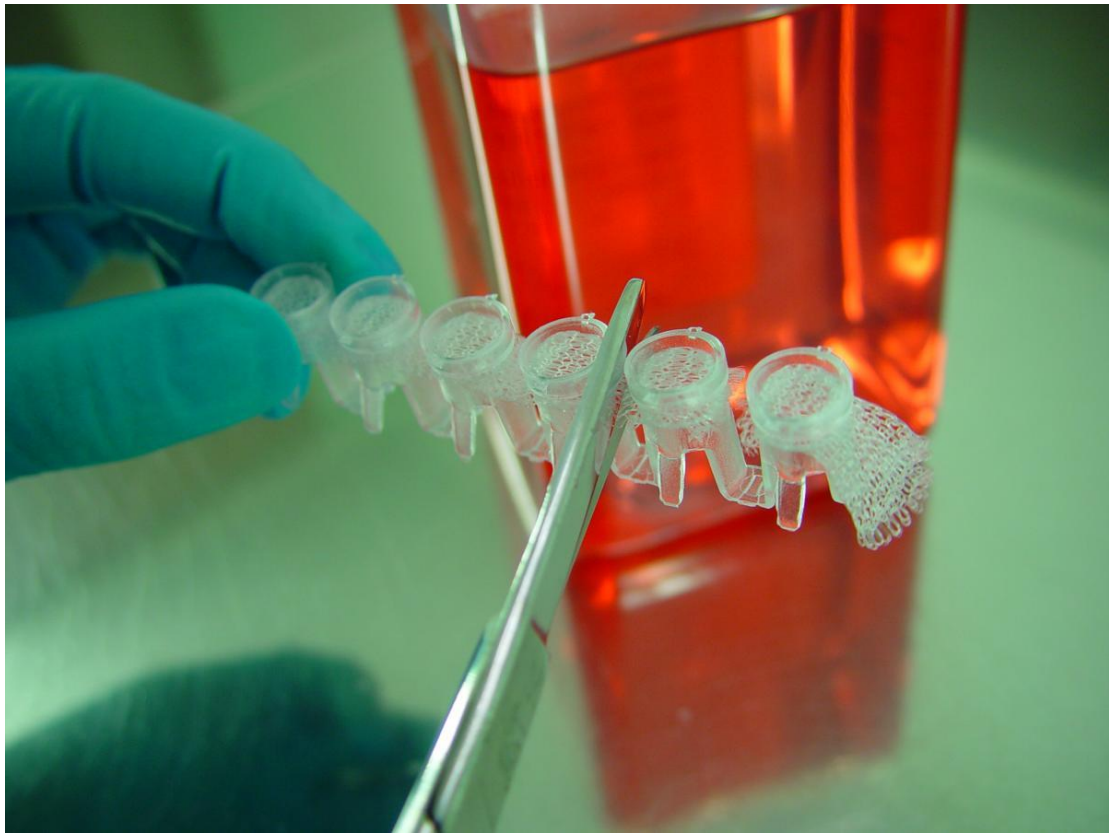

Figure 3. Cutting of the sample between inserts
- Samples can be attached as one entity and cut between insert parts (Figure 3).
After this the samples can be cut between the rings, if needed (Figure 3).